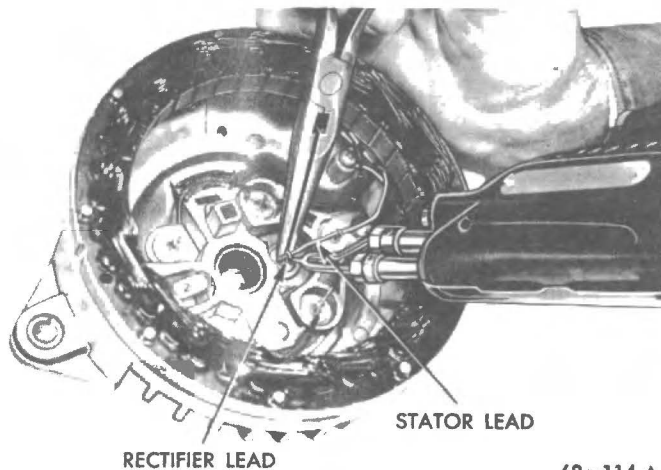

Fig. 42 - Soldering rectifier and stator leads.
(4) Solder the wire lead to the wires disconnected at removal. Hold the wire lead with pliers (Fig. 42) whilst soldering it. This will help to dissipate heat, protecting the rectifier.